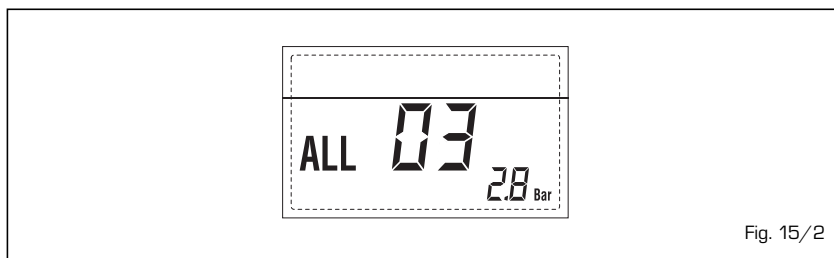

Fig. 15/2
- **C.H. SENSOR ANOMALY ALARM 05 (fig. 15/4)**